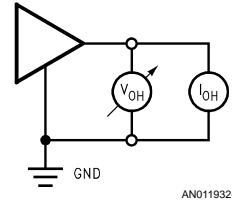

FIGURE 6.  $V_{OH}$  Test Circuit
**$V_{OH}$ —High Level Output Voltage.** The output voltage at an output terminal with input conditions applied that, according to the product specification, will establish a logic high level at the output. This voltage is measured with respect to circuit common (ground). See Figure 6.